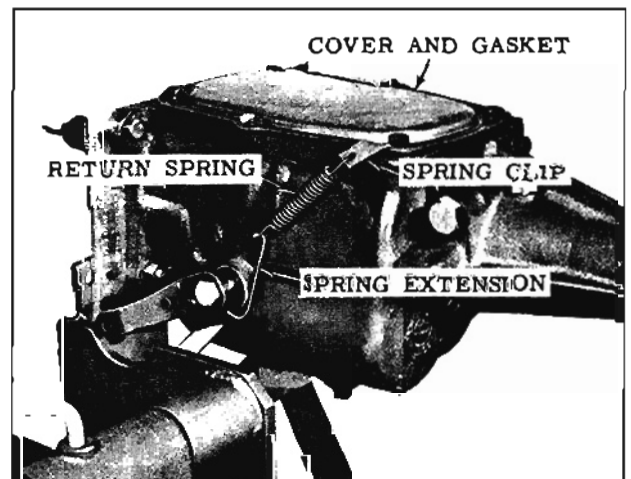

Fig. 7-7 Return Spring Assembly
2. Remove the return spring, spring extension, spring clip, cover, and cover gasket. (Fig. 7-7)